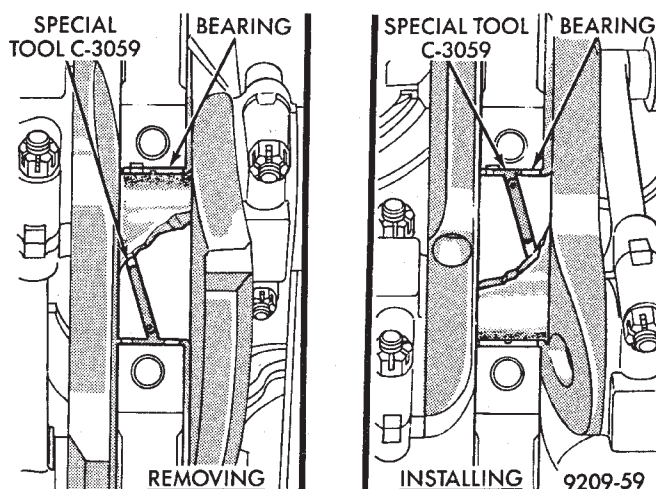

Fig. 36 Upper Main Bearing Removal and Installation with Tool C-3059
(1) Remove the oil pan.
(2) Remove the oil pump from the rear main bearing cap.
(3) Identify bearing caps before removal. Remove bearing caps one at a time.
(4) Remove upper half of bearing by inserting Crankshaft Main Bearing Remover/Installer Tool C-3059 into the oil hole of crankshaft (Fig. 36).
(5) Slowly rotate crankshaft clockwise, forcing out upper half of bearing shell.
(1) Start bearing in place, and insert Crankshaft Main Bearing Remover/Installer Tool C-3059 into oil hole of crankshaft (Fig. 36).
(2) Slowly rotate crankshaft counterclockwise sliding the bearing into position. Remove Tool C-3059.
(3) Install the bearing caps. Clean and oil the bolts. Tighten the capbolts to 115 N·m (85 ft. lbs.) torque.
(4) Install the oil pump.
(5) Install the oil pan.